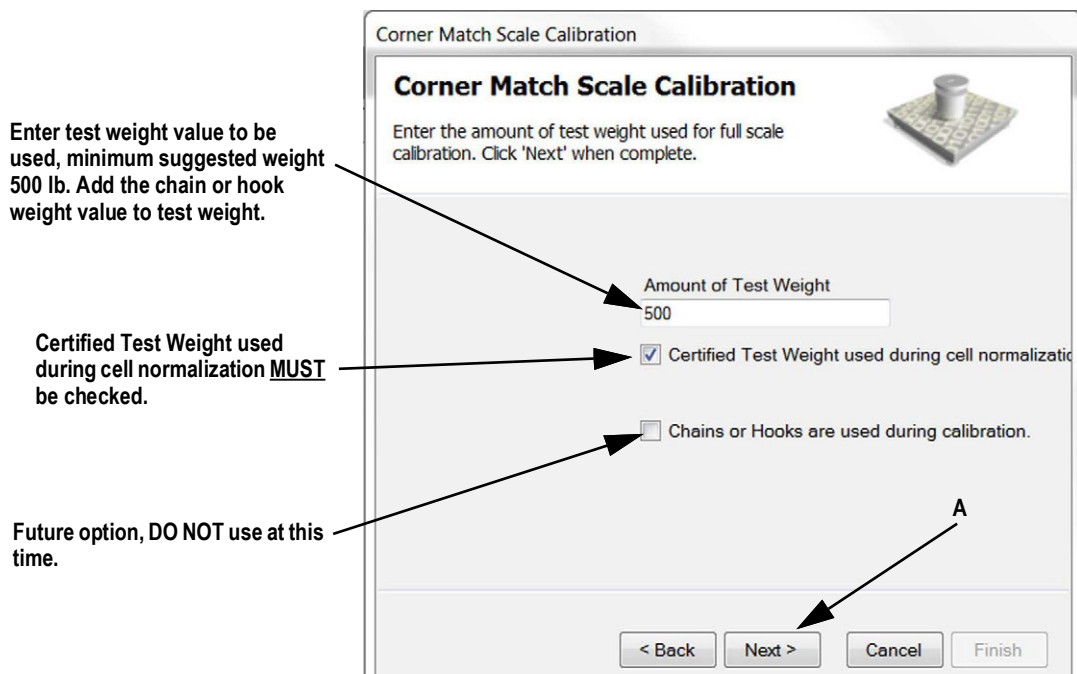

Figure 5-63. Enter Test Weight Value
NOTE: When hanging weights from the forks make sure to note the weight of hanging device and add to test weight value (Figure 5-63).
6. Enter test weight value to be used and press **Next** (Figure 5-63 A).